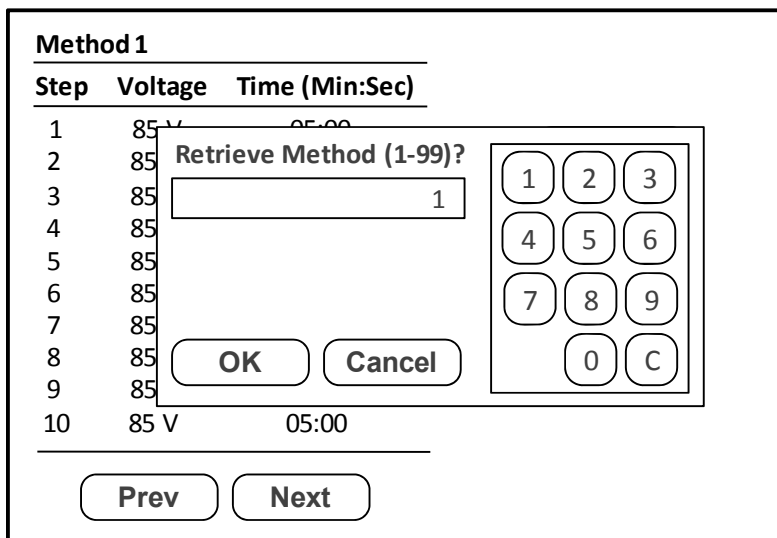

Figure 9. The GELFREE 8100 Fractionation Station. Retrieve Method.
2. Touch the 'Retrieve' button. This will bring up a dialogue screen (Figure 9) requesting a method number.